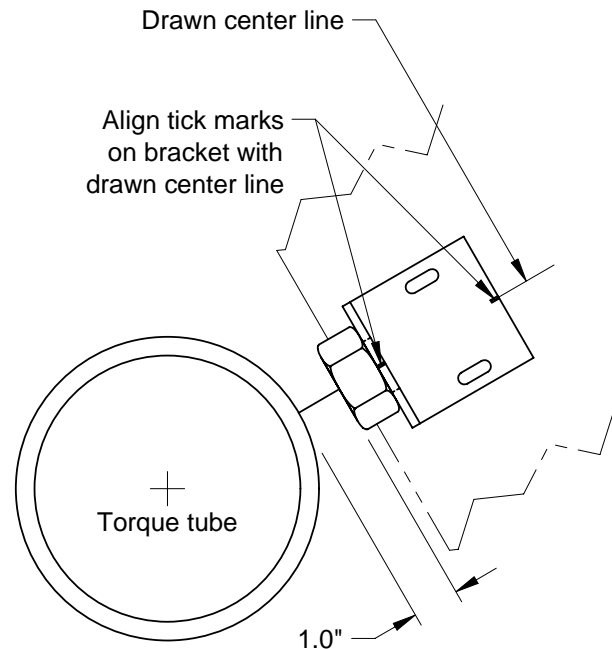

Figure 9-C
2. Remove the "Center Line Locating Tool" pattern from section 9.6. Place the "Center Line Locating Tool" on the torque tube and mark a line on the body structure where the bracket will be installed, see Figure 9-B.